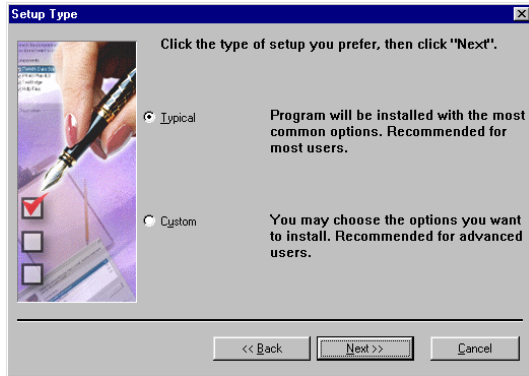

Figure 5: Choosing the type of set-up
7. Click on 'Next' to accept the default directory and continue with the installation. Figure 5 will appear.